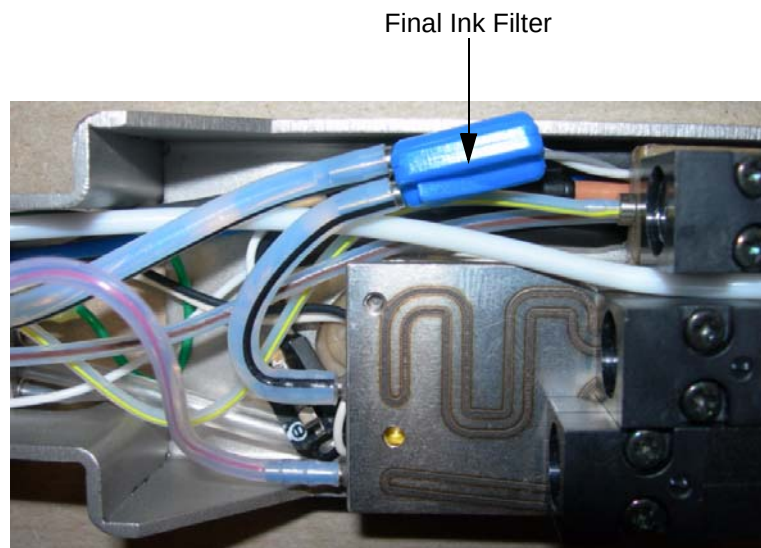

Figure 7-12: Final Ink Filter
- 6 Locate, remove and replace the final ink filter (Figure 7-12).